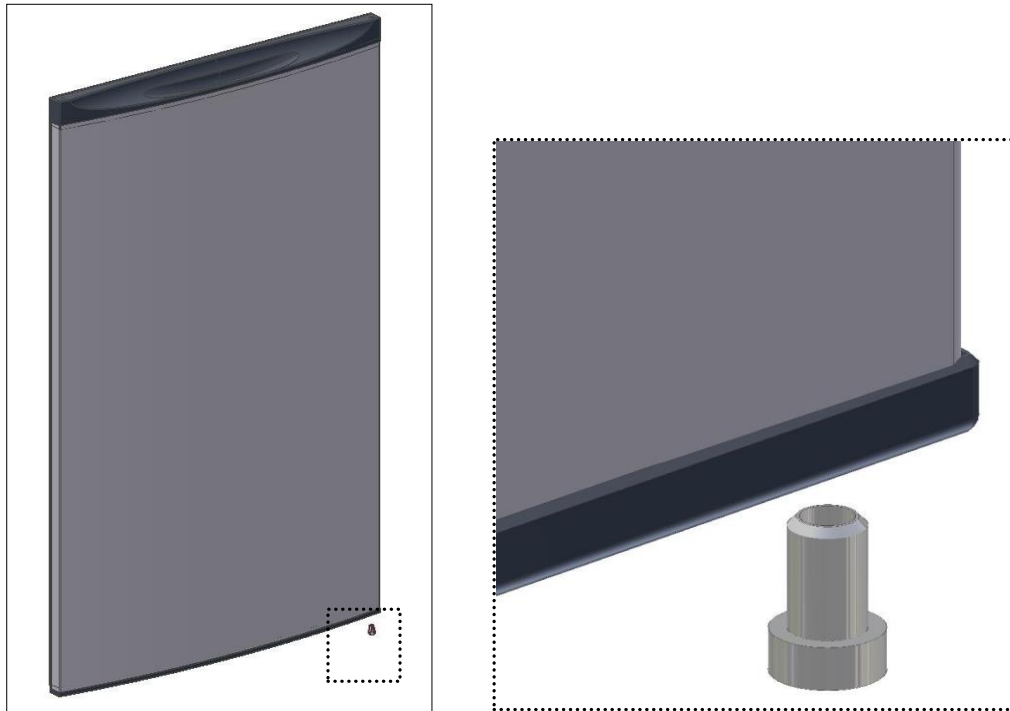

Fig. 8
- Insert the **sleeve** in the inferior side of the door (fig. 8);